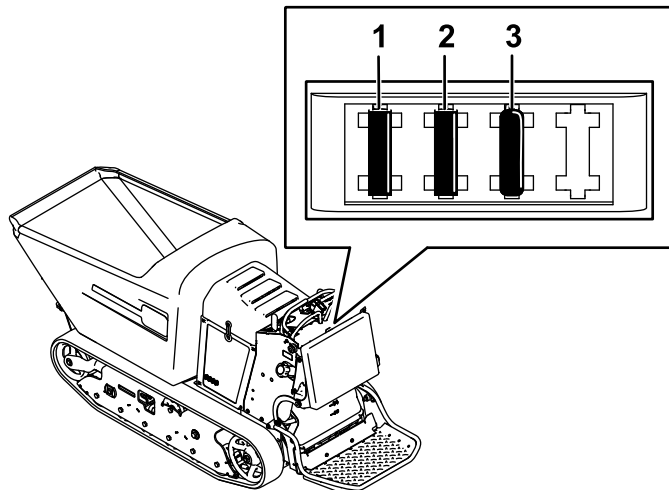

Figure 36
2. Pull out the fuse to remove or replace it (Figure 36).
**Note:** Ensure that the correct-size fuse is installed (Figure 36).